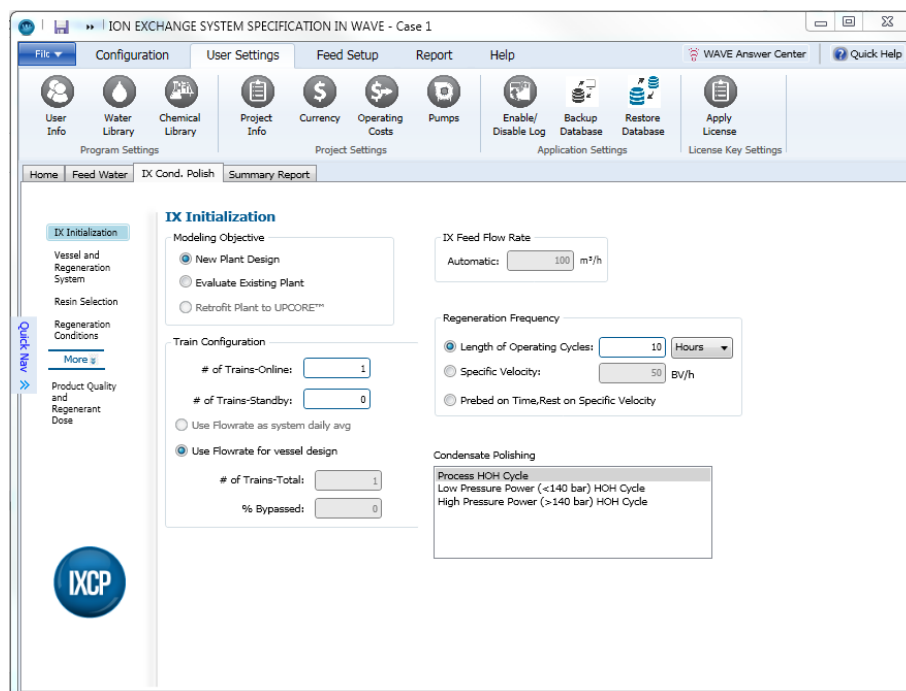

Figure 165. IX Initialization Window. Regeneration Frequency. IX Condensate Polishing
- The IX process flow diagram can be displayed by clicking on the “Show IX System Diagram” button (see Figure 165).